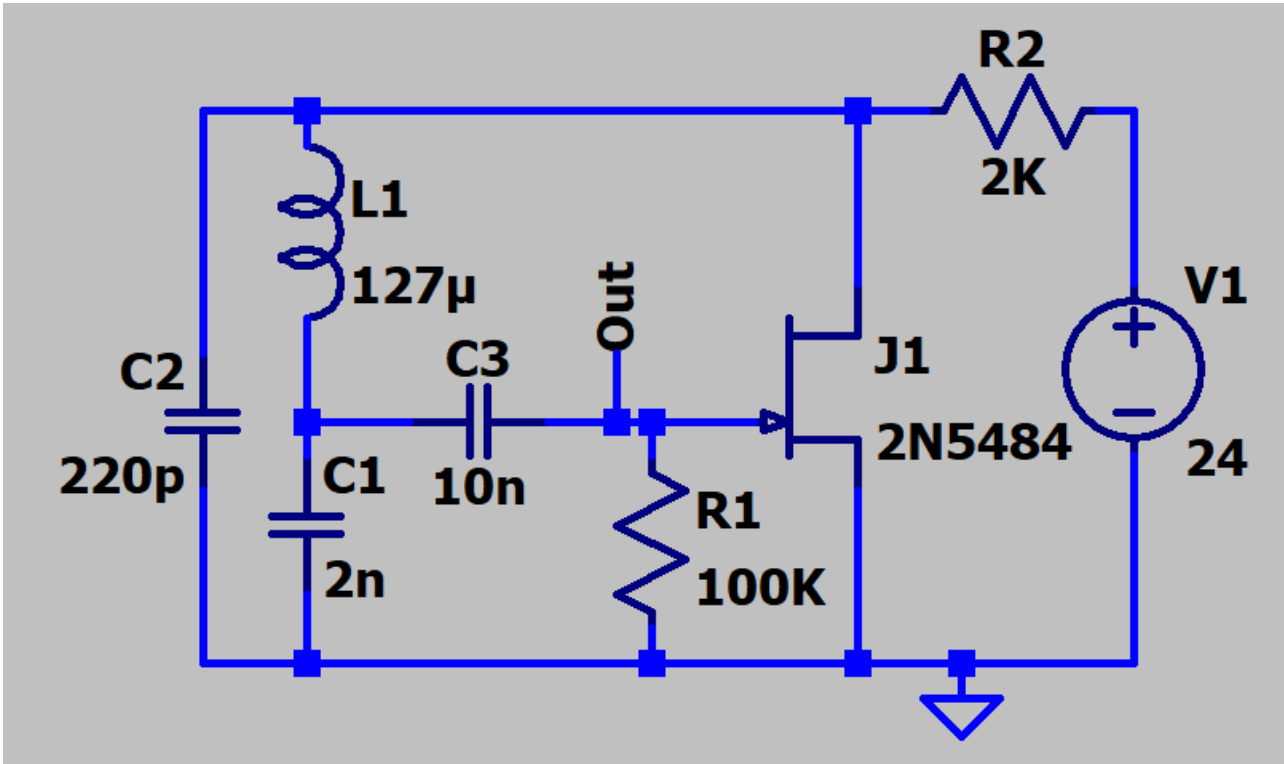

Fig. 14.
2. Connect the circuit in Fig. 14, run transient analysis (set **Stop time** as **0.12m**).